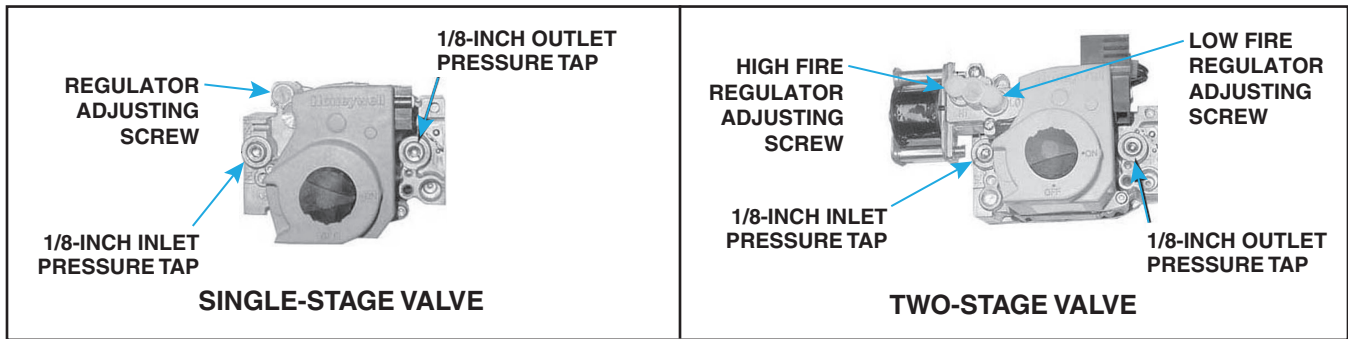

Figure 18. Gas Valves
2. Connect manometer to 1/8-inch output pressure tap on valve (see Figure 18).
5. If manometer reading does not indicate that valve outlet pressure is in accordance with Table 17, remove cap from regulator screw(s) (see Figure 18) and adjust pressure by turning regulator screw IN (clockwise) to increase pressure or OUT (counterclockwise) to decrease pressure.
4. Connect manometer to 1/8-inch output pressure tap on valve (see Figure 18).
- b. Remove cap from regulator screw (see Figure 18) and adjust pressure in accordance with Table 17 by turning regulator screw IN (clockwise) to increase pressure or OUT (counterclockwise) to decrease pressure.
- b. Remove cap from low-fire regulator screw (see Figure 18) and adjust pressure in accordance with Table 17 by turning regulator screw IN (clockwise) to increase pressure or OUT (counterclockwise) to decrease pressure.
10. Connect manometer to inlet pressure tap (see Figure 18). While heater is operating, measure inlet pressure, which should be between 5 and 13.5 IN WC for natural gas or between 10 and 13.5 IN WC for propane.